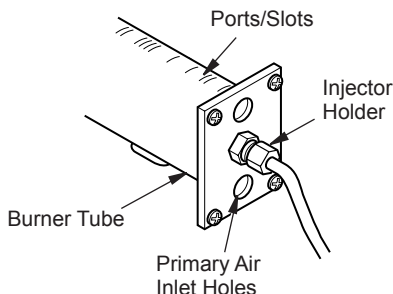

Figure 31 - Injector Holder On Outlet Burner Tube
2. Inspect burner, pilot and primary air inlet holes on injector holder for dust and dirt (see Figure 31).